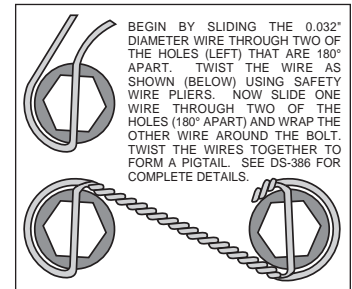

Figure 4. Safety Wire Diagram
- Orient the rotor (6) and the hat (7) as shown in Figure 1 and Photo 1. Attach rotor to hat using bolts (9) and washers (8). Using an alternating sequence, apply red *Loctite*® 271 to the threads, and torque to 155 **in-lbs**. For an added measure of security, the bolts may be safety wired using standard 0.032 inch diameter stainless steel safety wire as shown in Figure 4.